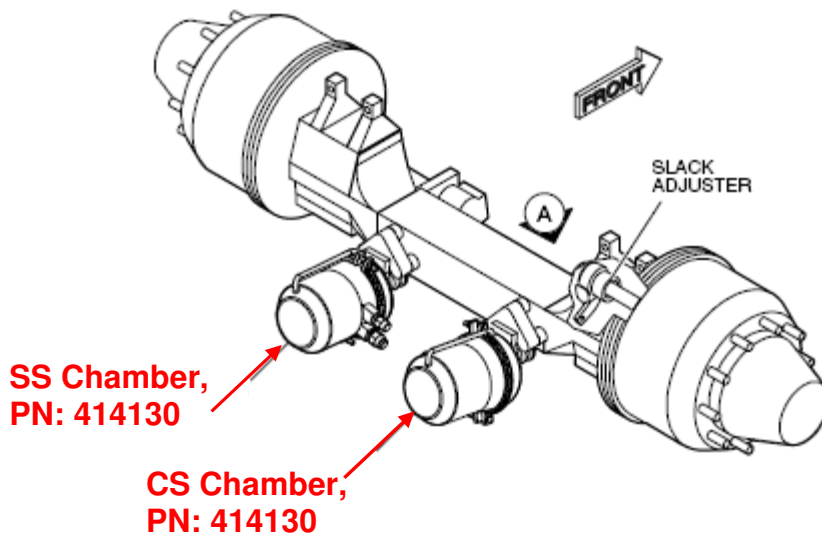

FIGURE 5: CENTER AXLE
9. If coach is 60 foot model, locate center axle brake chambers as shown per Figure 5.